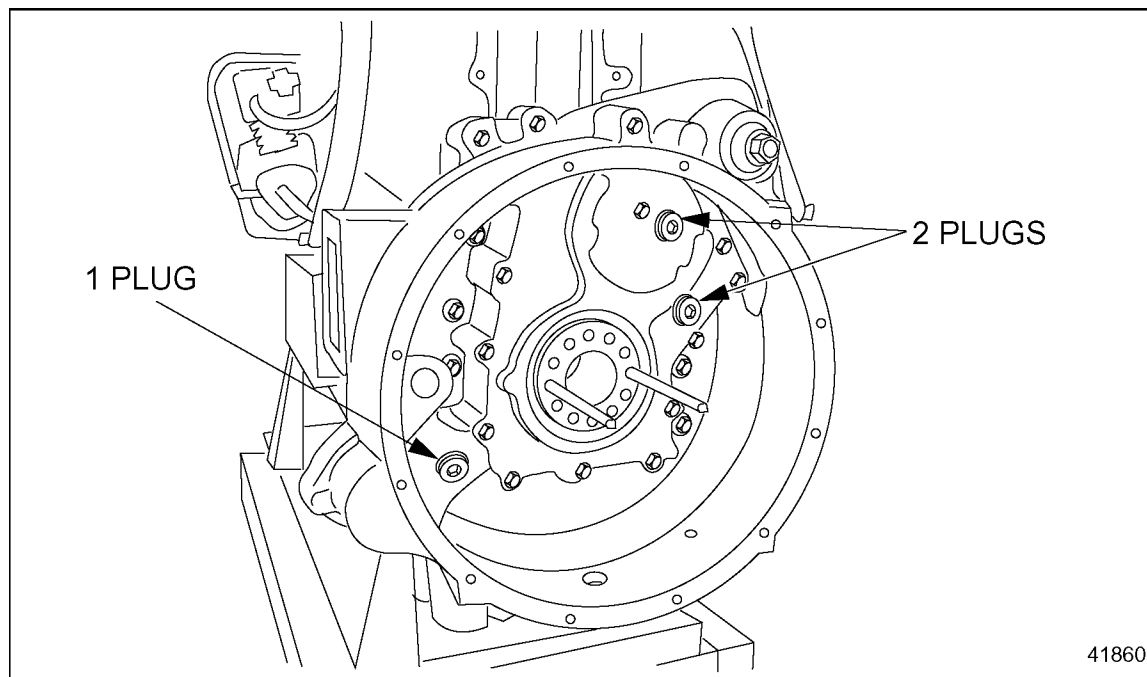

Figure 9-15 **Pipe Plugs on the Gear Set Cover Plate**
8. Install the two pipe plugs located on the gear set cover plate and plug next to the cranking motor. See Figure 9-15.